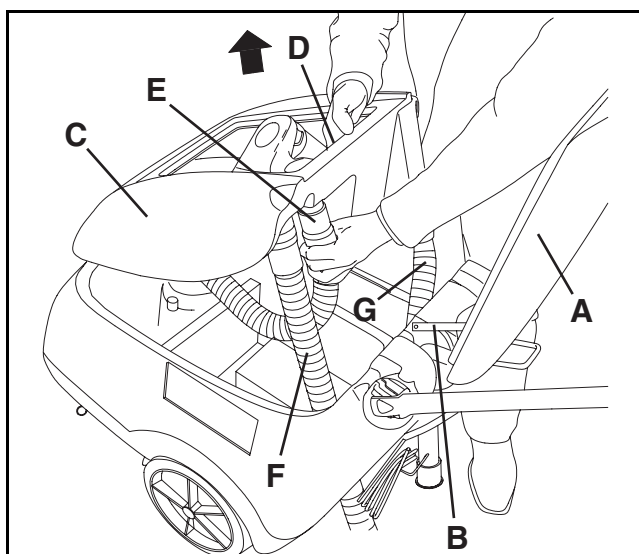

Figure 9
7. Open the cover (A, Fig. 9) and apply the cover stand (B).
8. Grasp the recovery tank (C, Fig. 9) in the area (D) and lift it, as shown in the figure, then disconnect the vacuum hose (E) from the tank and remove the tank (C) together with the hoses (F) and (G).
10. Reinstall the tank (C, Fig. 9) by carrying out steps 5 to 9 in the reverse order.